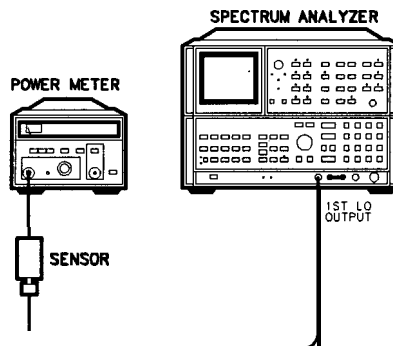

Figure 2-33. 1st LO Output Amplitude Test Setup
1. Press (2). Key in a (STOP FREQ) of 5.8 GHz.
3. Calibrate power meter and sensor. Connect equipment as shown in Figure 2-33.